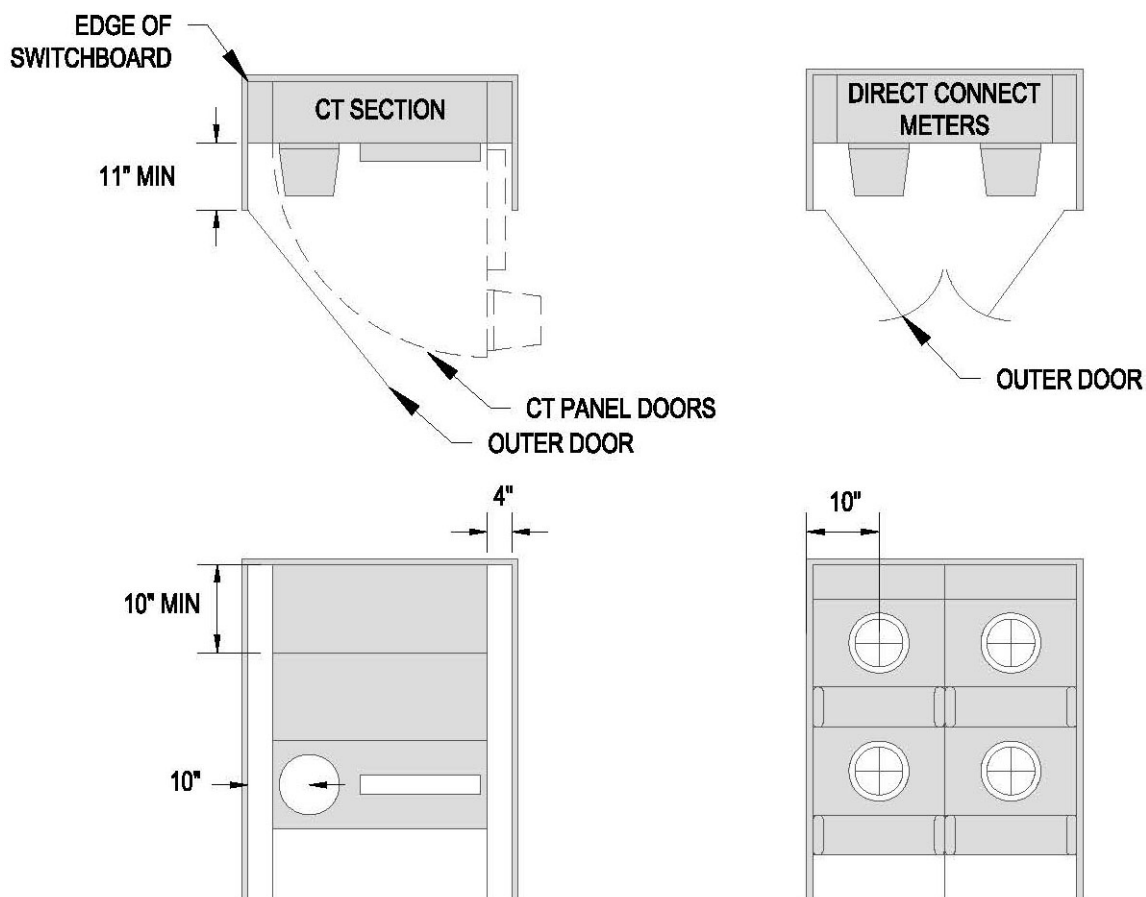

Figure 105. Outdoor Switchboard Metering (EUSERC 354) - (STD-D-6254)
- When installing outdoor switchboard metering, the customer must install a housekeeping pad with a 48" concrete extension, unless an existing concrete or asphalt surface exists in front of any cabinet that contains PGE equipment. Drainage must slope away from the cabinet (see Figure 105).
Table 36. Minimum Pull Section Dimensions (applies to Figure 105 only)